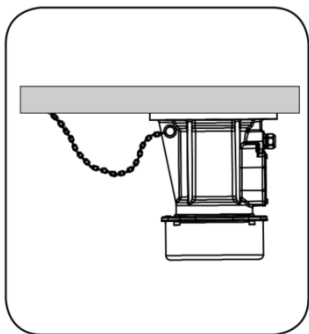

Fig.2 Electric fall protection device
7、 The flanged electric vibrators have anti-drop mounting holes near the junction box. When the user installs the vibration motor above 0.2 m, it is recommended to use a chain hook as shown in Figure 2 to prevent the electric vibrators from falling, cause the equipment damage and safety accidents.